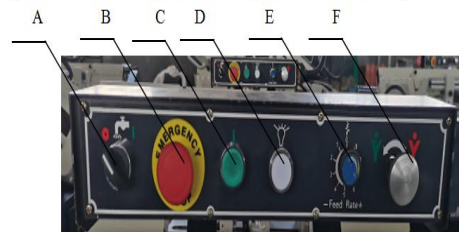
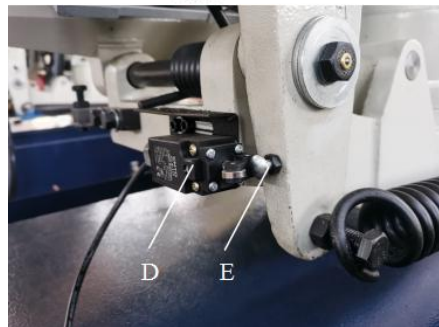

Fig.1
Fig.2
2. The machine is started by pushing the start button (C) Fig. 1. And it will continue to run until the saw arm is in the down position at the end of the cut, or when the stop button (B) is pushed.
3. When in emergency, push button (B) to stop the machine. After removing the trouble, release emergency button, re-start the machine by pushing the start button (B).
4. When using the coolant turn the select button (E) to the right.
5. To adjust the feeding rate when in cutting, turn the volume valve (F) clockwise for faster feeding, counterclockwise for slower feeding. When volume valve (F) has been properly adjusted, turn the control valve (G) to handle saw arm action.
6. An automatic shut-off limit switches provided to stop the motor when the cut is completed. The limit switch is controlled by a lever (C) Fig. 2, which contacts the top of the hydraulic cylinder (E) shutting off the motor and coolant pump.